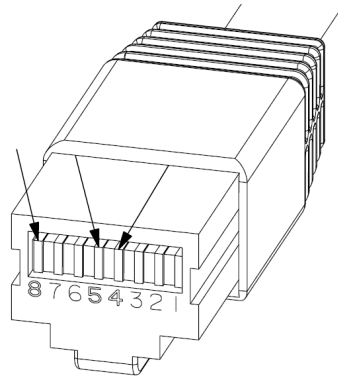

Figure 5-11: RJ45 pinout
- f. Prepare an RJ45 cable equipped with flying leads and identify the wire colors connected to pin 4, 5 and 8 with reference to **Figure 5-11**.